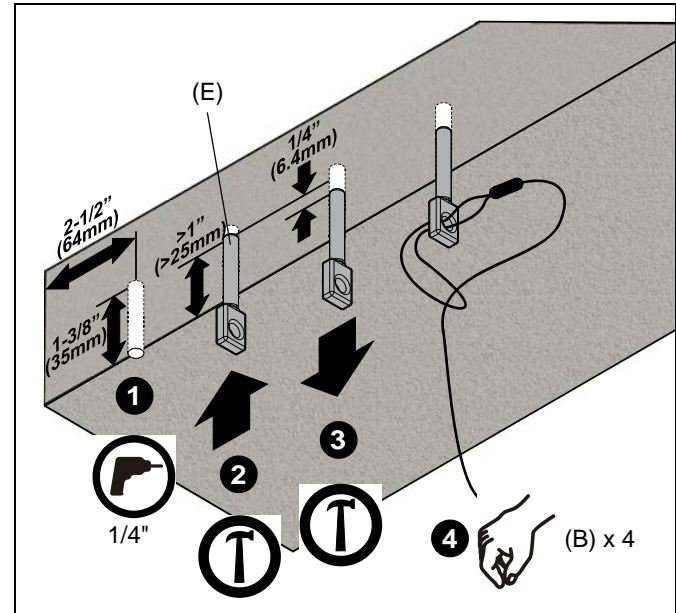

Figure 2
1. Drill 1/4" diameter x 1-3/8" deep pilot hole at each marked cable anchor support location. Ensure hole is at least 2-1/2" from nearest concrete edge. Remove debris from hole. (See Figure 2)
2. Tap anchor (E) into each hole to a depth of at least 1". (See Figure 2)
3. Using claw portion of hammer, set each anchor (E) by pulling it out of hole approximately 1/4". (See Figure 2)
4. Insert portion of manufactured loop on cable (B) through hole in anchor (E), and insert end of cable (B) through loop. Repeat for 3 remaining support locations. (See Figure 2)